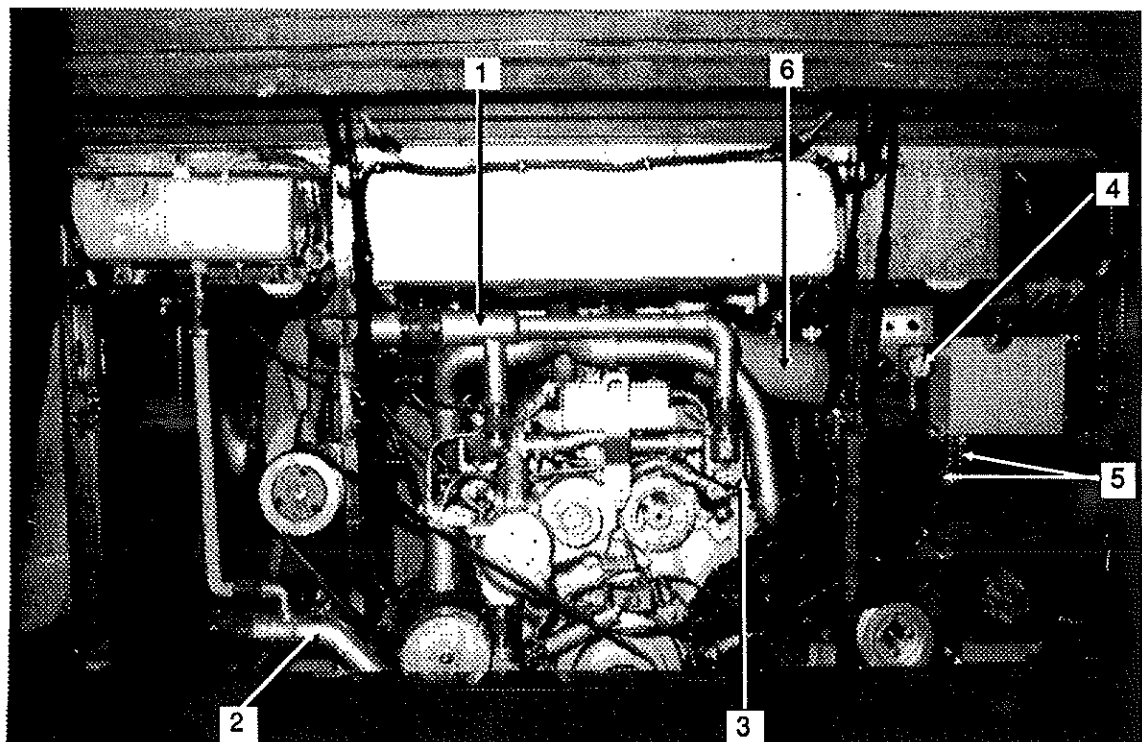

Fig. 13
11. Disconnect and remove the section of the coolant pipe assembly mounted between the thermostat housings and the main upper coolant pipe (see fig. 13, item 1).
12. Disconnect and remove the section of the coolant pipe assembly mounted between the radiator outlet and the water pump inlet (see fig. 13, item 2).
13. Remove the mechanical water temperature gauge sending unit (see fig. 13, item 3) from thermostat housing base (engine air cleaner side), remove cable ties, then move sending unit away from power plant assembly.
14. Disconnect engine oil pressure steel-braided hose from mechanical oil pressure gauge (see fig. 13, item 4), then remove retaining clips.
15. Disconnect the delivery hose(s) from the engine oil reserve tank (2 on vehicle equipped with manual transmission) (see fig. 13, item 5).
18. Disconnect and remove the engine air intake duct mounted between air cleaner housing and turbo (see fig. 13, item 6).